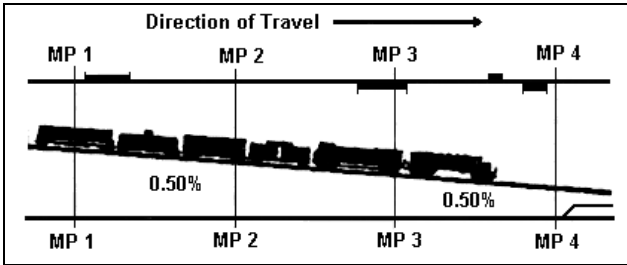

**Figure 5-7. Direction of Train Travel in a Slack Bunched Method (Dynamic Brake Not Available)**
b. **Slack Bunched Method – Dynamic Brake Not Available (Preferred Method for Level, Light, Heavy, and Mountain Descending Grades) (see Figure 5-7).**